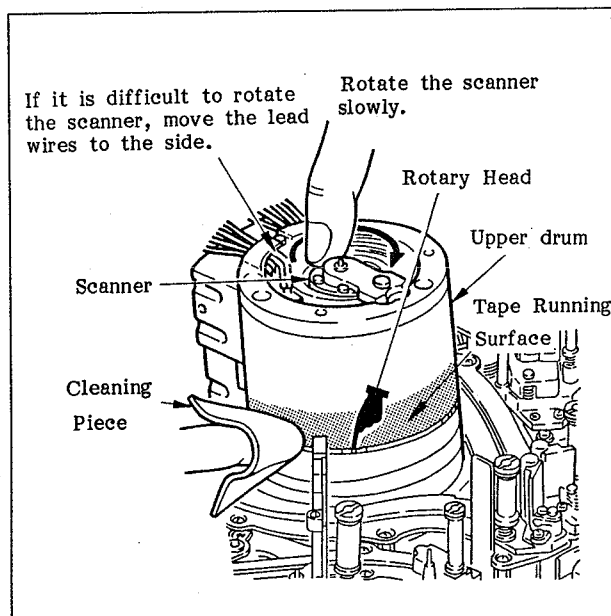

Fig. 5-1 Cleaning the Rotary Head and the Upper Drum Tape Running Surface
1. Remove the drum cover and clean the rotary head marked by  shown in Figure 5-1, with a cleaning piece soaked with alcohol by pressing it lightly against the head and by slowly rotating the scanner. Clean the shaded portion of the upper drum tape transport surface, shown in the figure, in a circumferential direction two or three times.